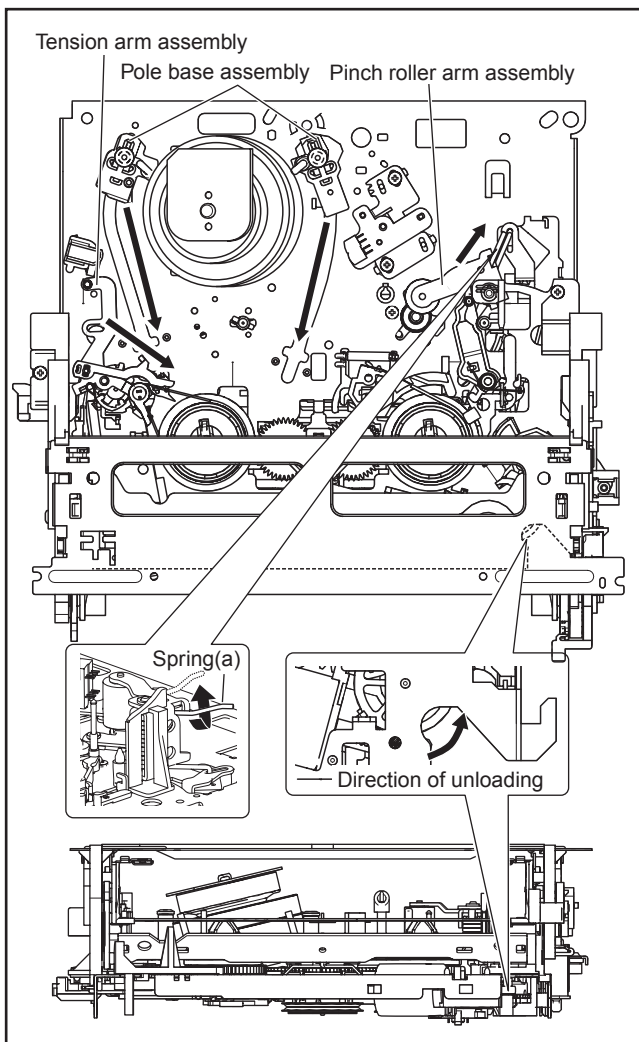

Fig.5-1b
- (3) Unload the pole base assembly by manually turning the gear of the loading motor until the pole base assembly is hidden behind the cassette lid. In doing so, hold the tape by the hand to keep the slack away from any grease. (See Fig.5-1b)